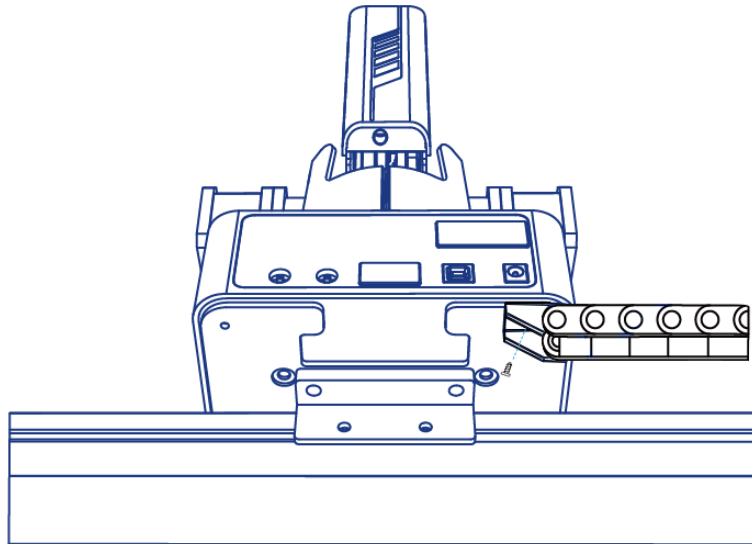

Figure 1.4 Connect with wire set
**Step 3** Connect the end of the wire set to the plate b with a M3\*6 countersunk head hexagon screw, as shown in Figure 1.4.